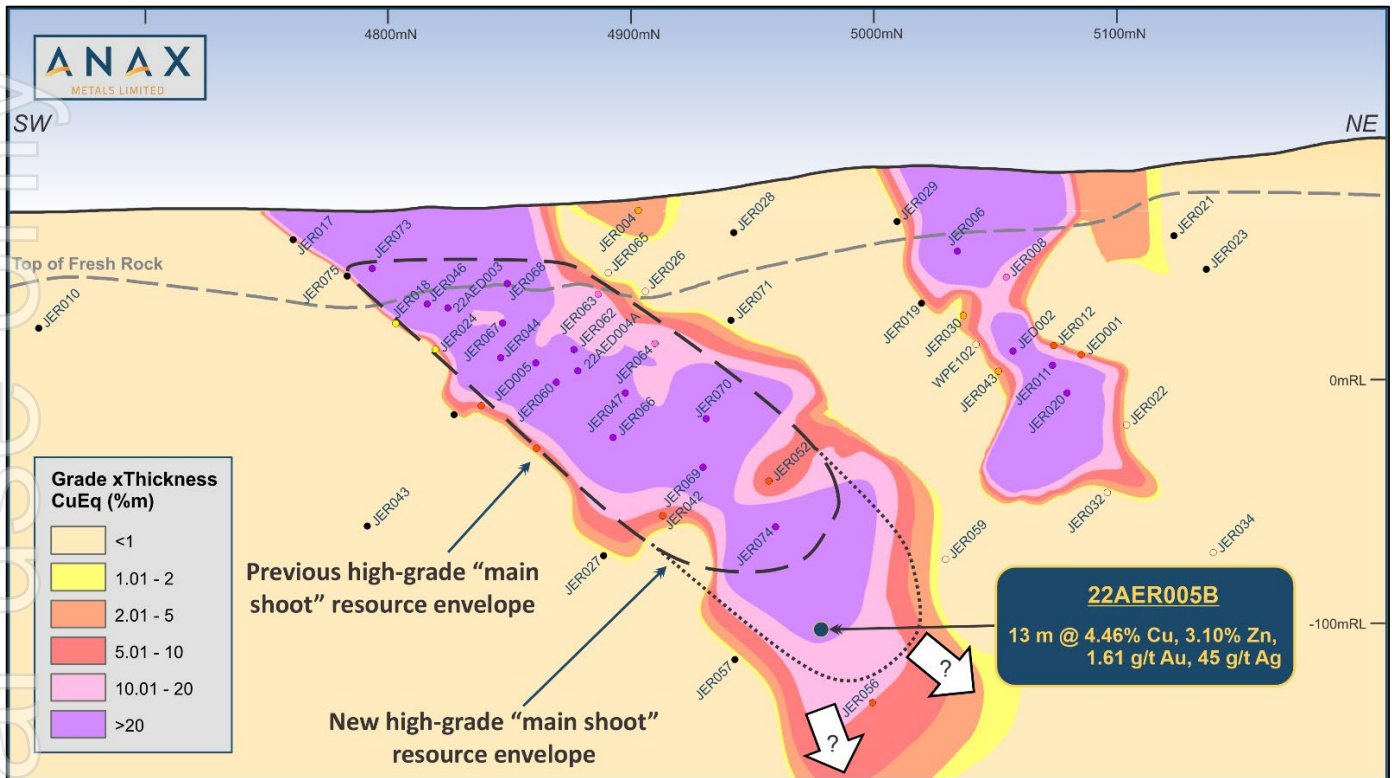

Figure 2: Evelyn Long Section (local grid) showing CuEq grade x thickness contours and current drilling pierce points. View direction is to the northwest. ⁵
The massive sulphide **Evelyn** deposit is located 25km south of the proposed Whim Creek processing facility along the Croydon-Whim Creek Road. In July 2022, Anax completed a Reverse Circulation (RC) drill hole targeting down plunge extensions of the high-grade copper-zinc resource zones, intersection **13 m @ 4.46% Cu, 3.10% Zn, 45 g/t Ag and 1.61 g/t Au** from 204 m in 22AER005B (Figure 2).⁴ **Importantly, copper content appears to increase at depth.**